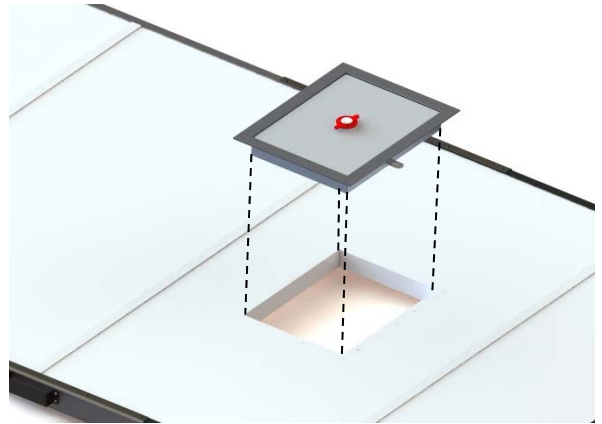

Figure 41
41) Turn the escape hatch handle to retract the arms and install it into the escape hatch opening of the center panel (Figure 41)